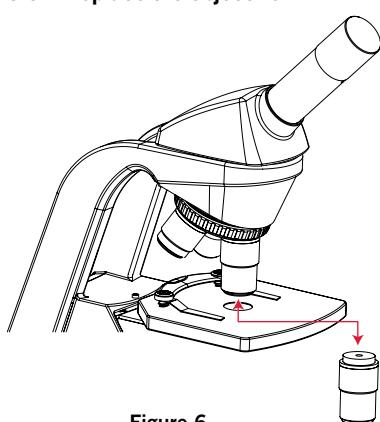

Figure 6
- If one of the nosepiece holes is not used for an objective a dustproof cap should be screwed into the vacancy to prevent dust from entering. (Figure 6)